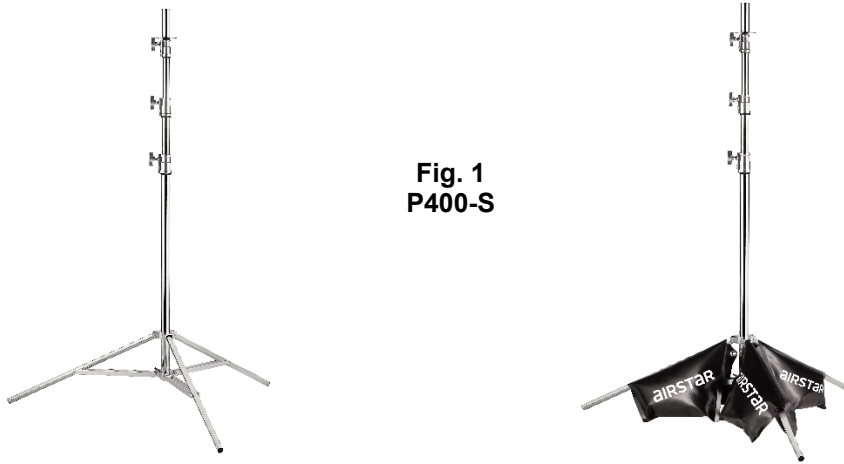

Fig. 1
2. On the P400-S stands (Fig. 1), slide the feet of the stand out from their folded position until the reinforcing bars are precisely horizontal.
3. On the P400-S stands (Fig. 1), Airstar sandbags must be positioned on each stand feet and attached around the central column.